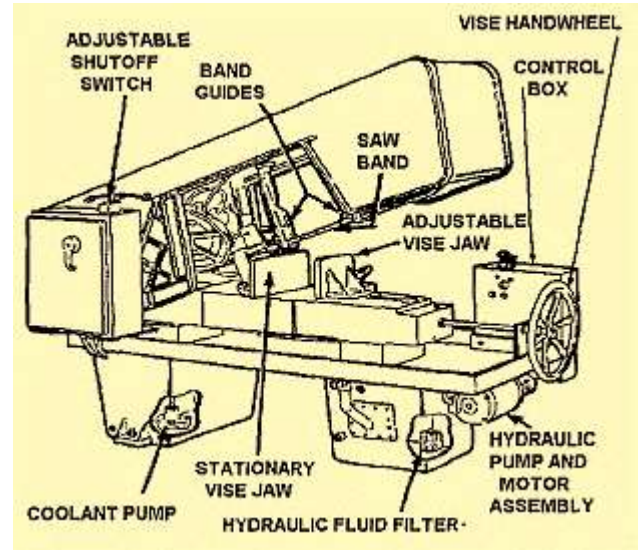

Figure 6-3. Horizontal bandsaw.
- Horizontal machines (Figure 6-3).